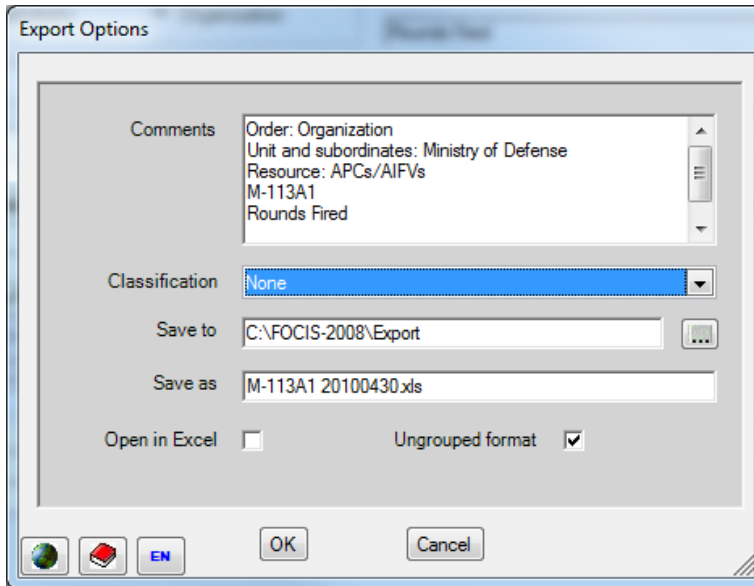

Figure 4-66. Export Options Window
- The **Export** button copies all data included in the SRD to Excel, as previously discussed in other sections of the manual. When **Export** is selected, the Export Options window (Figure 4-66) opens.